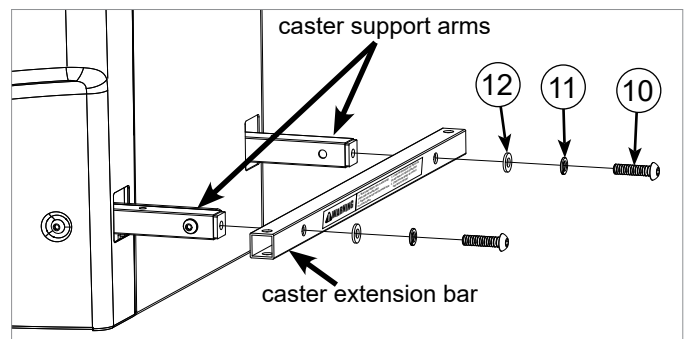

Fig. 16
16. Stand up your saw as described in step 4 on the back of the unpacking sheet that came with your saw and also in your Professional Cabinet Saw Owner's Manual. With the saw in the upright position, mount the caster extension bar to the two caster support arms that extend from the right side of the cabinet. Make sure that the warning label is facing outward. Use two M10 x 40 button head socket bolts, two M10.5 x 17 lock washers, and two M10.5 x 20 washers to mount the caster extension bar to the caster support arms (see Fig. 16). Fully tighten the bolts with a 6 mm hex key.